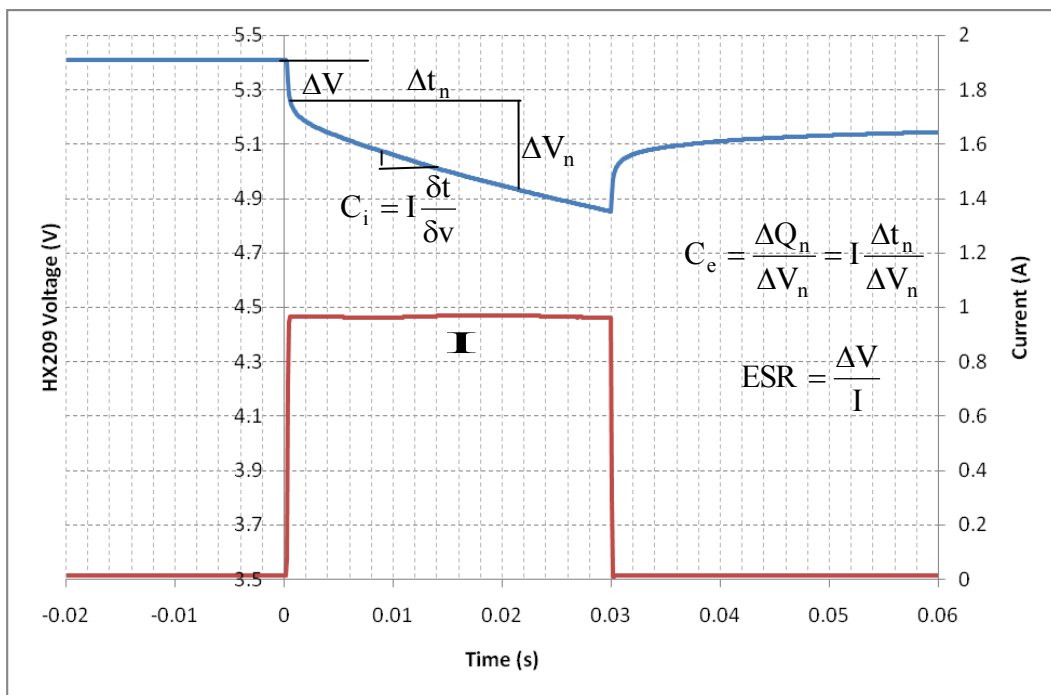
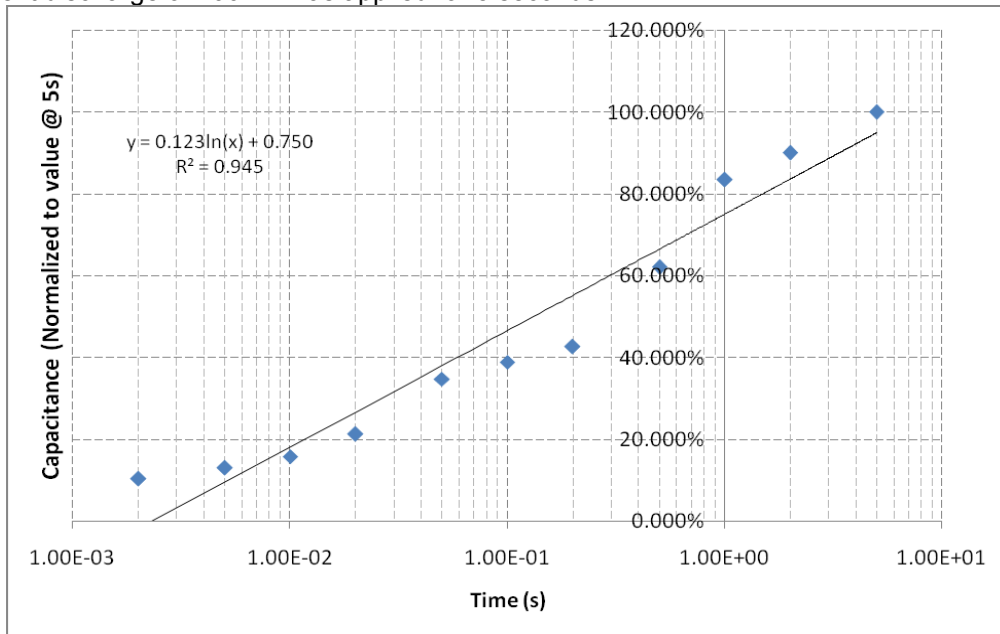
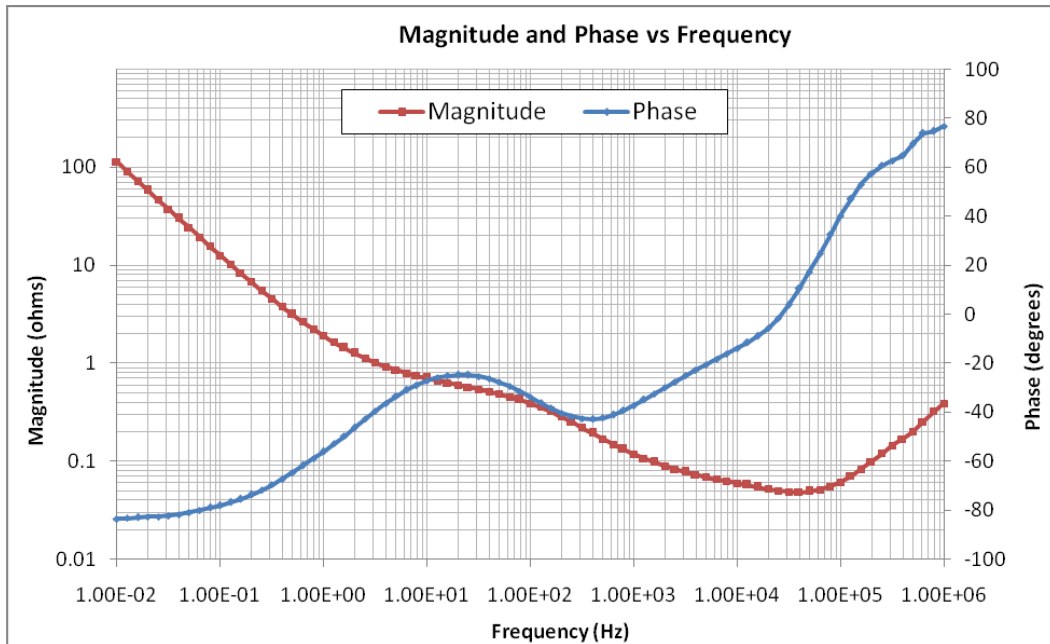

Figure 1: Definitions for Effective Capacitance, Instantaneous Capacitance and ESR
Figure 4: Effective Capacitance – charged to 5.5V and discharged with a 100mA pulse
Figure 8: Frequency Response of Impedance (biased at 5.5V with a 50mV test signal)
In its simplest form, the Equivalent Series Resistance (ESR) of a capacitor is the real part of the complex impedance. In the time domain it can be found by applying a step discharge current to a charged capacitor as in figure 1. In this figure the supercapacitor is pre-charged and then discharged with a current pulse (I). The ESR is found by dividing the instantaneous voltage step (ΔV) by I. The instantaneous capacitance (C_i) can be found by taking the inverse of the derivative of the voltage and multiplying it by I. The effective capacitance (C_e) is found by dividing the total charge removed from the capacitor (ΔQ_n) by the voltage lost by the capacitor (ΔV_n). Note that ΔV , or IR drop, is not included because very little charge is removed from the capacitor during this time. C_e shows the time response of the capacitor and it is useful for predicting circuit behavior in pulsed applications.
In the example of Fig 1, using an HX209, $\Delta V = 5.40V - 5.29V = 0.11V$, $I = 0.97A$, so $ESR = 0.11V/0.97A = 113m\Omega$. Similarly for a $\Delta V_n = 5.29V - 4.90V = 0.39V$, $\Delta t_n = 0.02s$, and $I = 0.97A$. Therefore, $C = 0.97A \times 0.02s / 0.39V = 49.7mF$ which corresponds to 43% of the nominal capacitance (see figure 4 – Effective Capacitance).
Figure 4 shows the Effective Capacitance for the HX209 @ 25°C. The supercapacitor was charged to and held at 5.5V until the current drawn by the supercapacitor dropped to less than 100µA. The supercapacitor was then disconnected from the source and a constant current discharge of 100mA was applied for 5 seconds.
Fig 8 shows the supercapacitor behaves as an ideal capacitor until approx 10Hz when the magnitude no longer rolls off proportionally to 1/freq and the phase crosses -45° . Performance of supercapacitors with frequency is complex and the best predictor of performance is figure 4 which shows the effective capacitance as a function of pulse width. Inductance becomes significant above 10Khz and is approx 60nH. The HX209 is self resonant in the 3 KHz range.